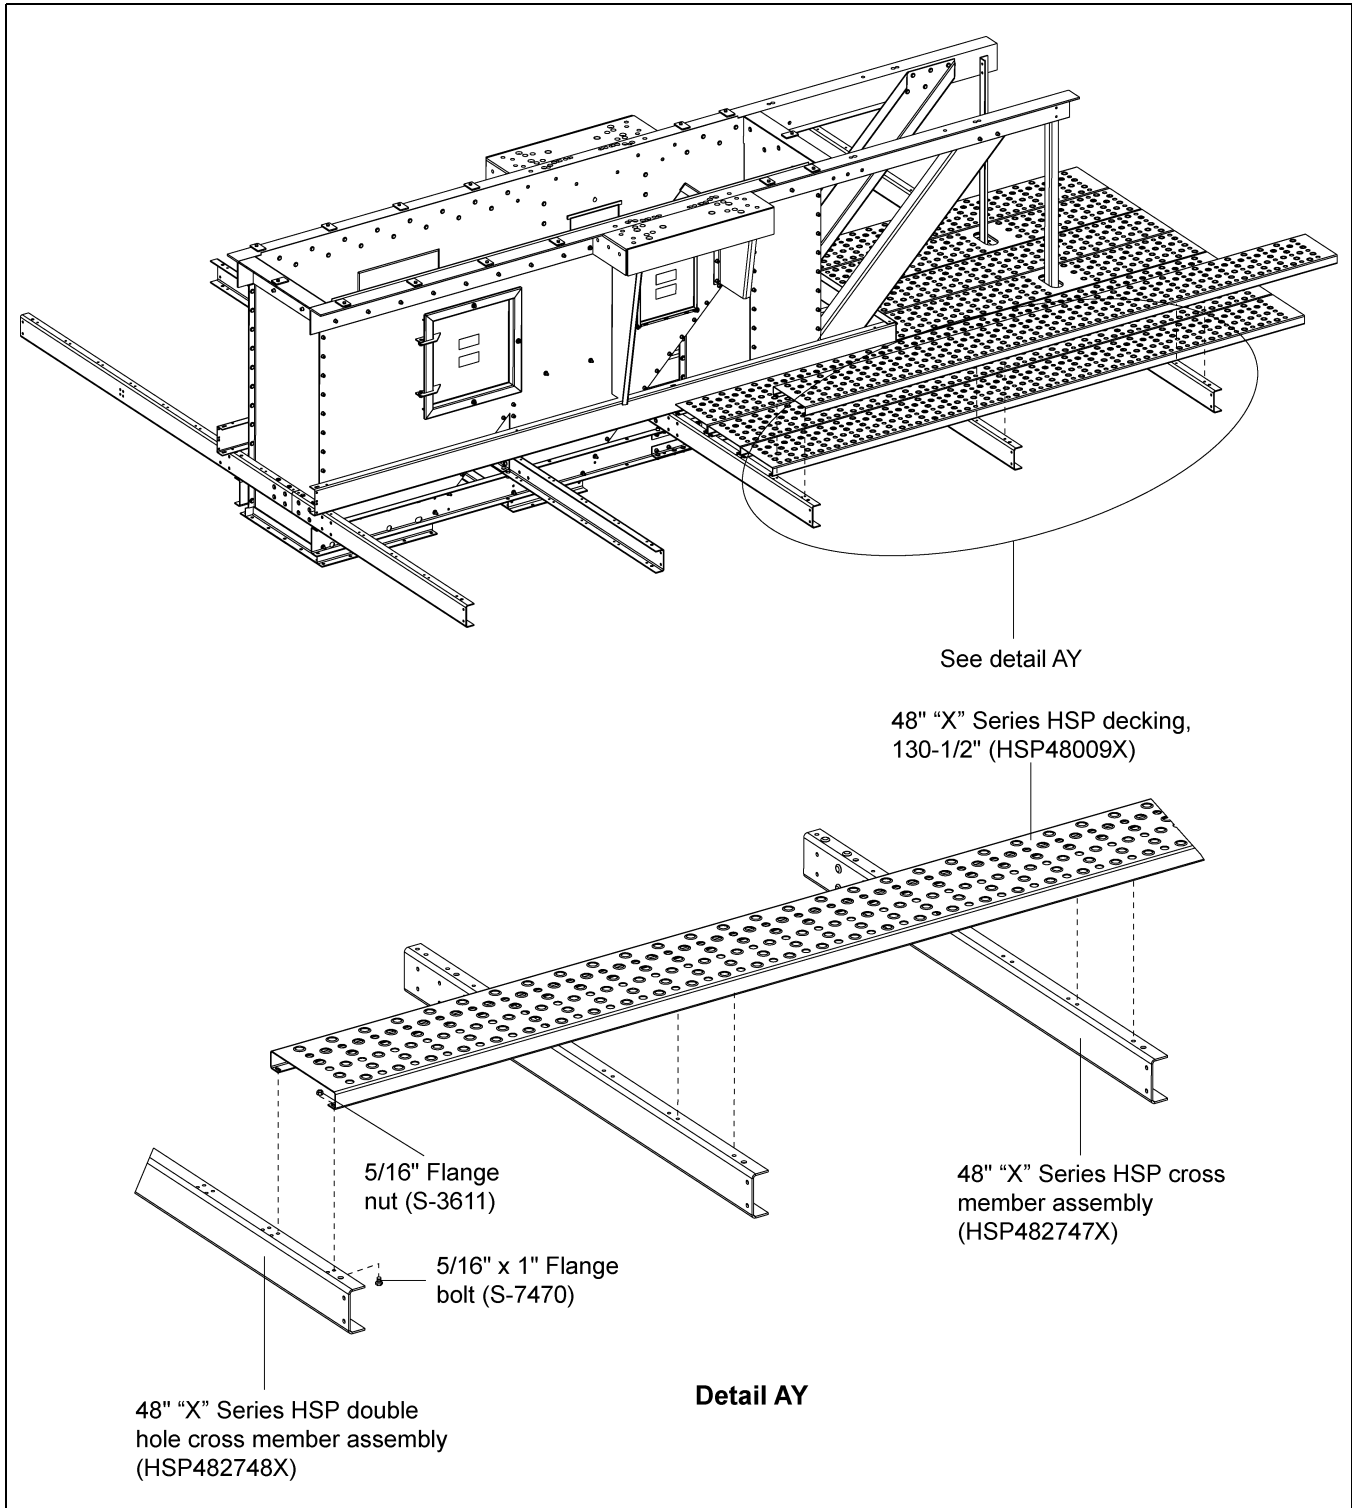

Figure 9J
1. Install four (4) planks of decking (HSP48009X) on the drive side at the up-leg end. **NOTE:** *Be sure to install this section of decking by starting at the inside next to the toe board and working outward.*
2. Fasten the decking to the three (3) cross channels (HSP482007X) using 5/16" x 1" flange bolts (S-7470) and 5/16" flange nuts (S-3611). (See Figure 9J.)